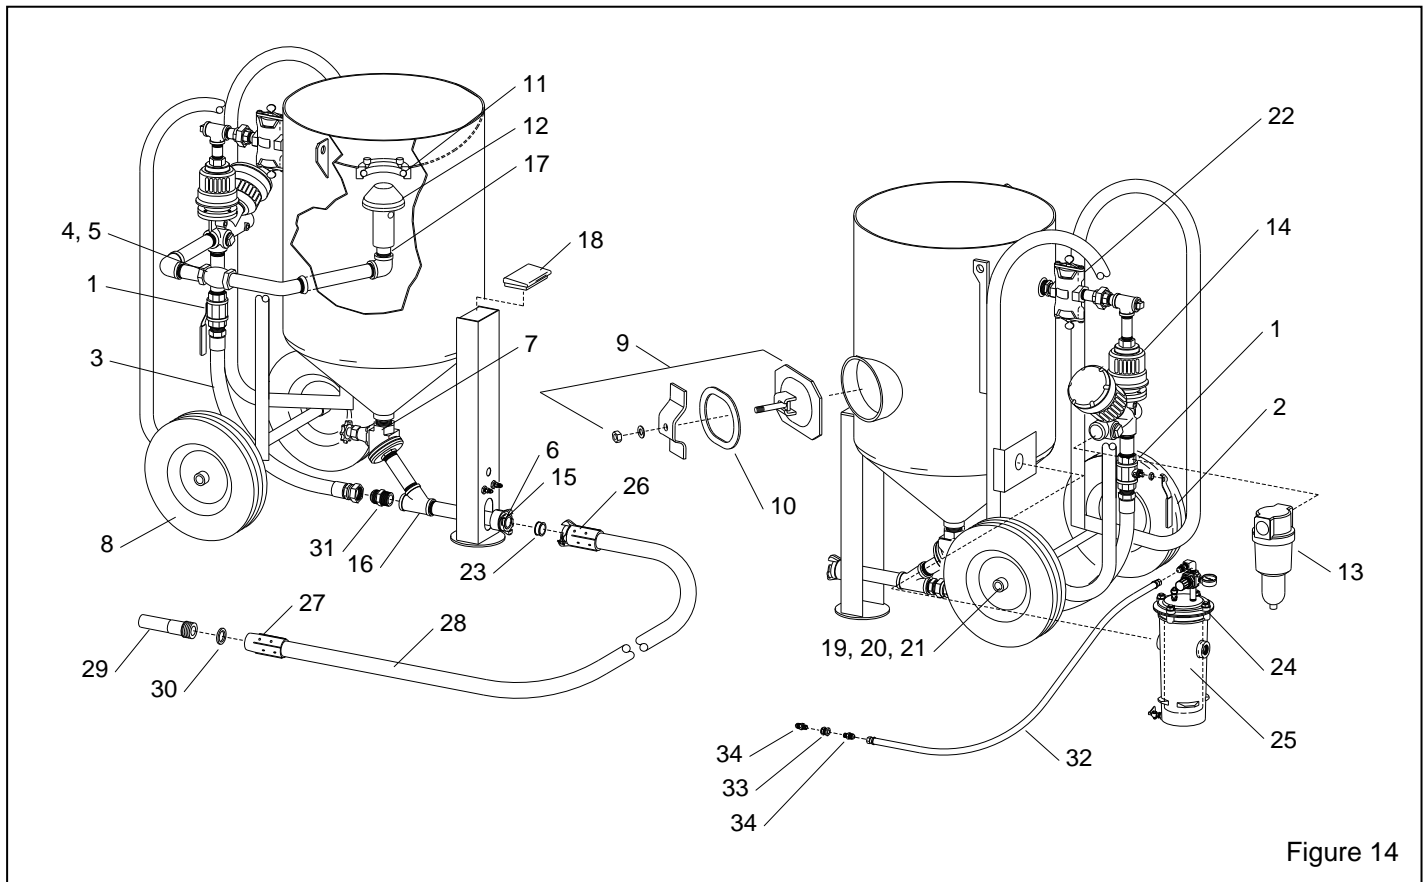

Figure 14
**8.2 Blast Machine, Figure 14**